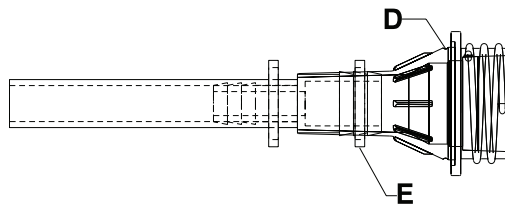

Figure 5: Install the cable tie to the valve body
11. Using a zip tie gun, center the supplied cable tie (E) around the valve body (D) and the reduction coupler fitting (Figure 5 on page 17).
14. Using a zip tie gun, center the supplied cable tie (E) around the valve body (D) and the reduction coupler fitting (Figure 5 on page 17).